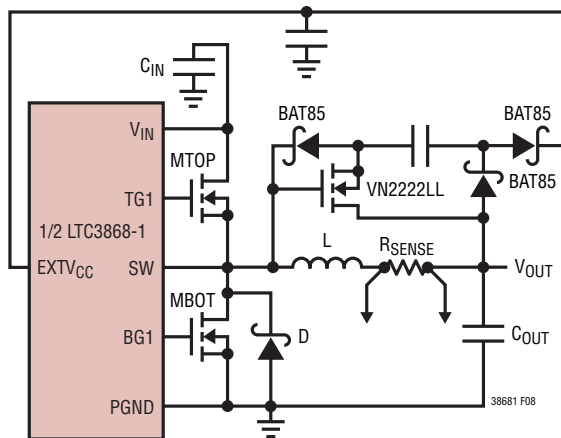

Figure 8. Capacitive Charge Pump for EXT_{V_{CC}}
4. EXT_{V_{CC}} Connected to an Output-Derived Boost Network. For 3.3V and other low voltage regulators, efficiency gains can still be realized by connecting EXT_{V_{CC}} to an output-derived voltage that has been boosted to greater than 4.7V. This can be done with the capacitive charge pump shown in Figure 8. Ensure that EXT_{V_{CC}} < V_{IN}.